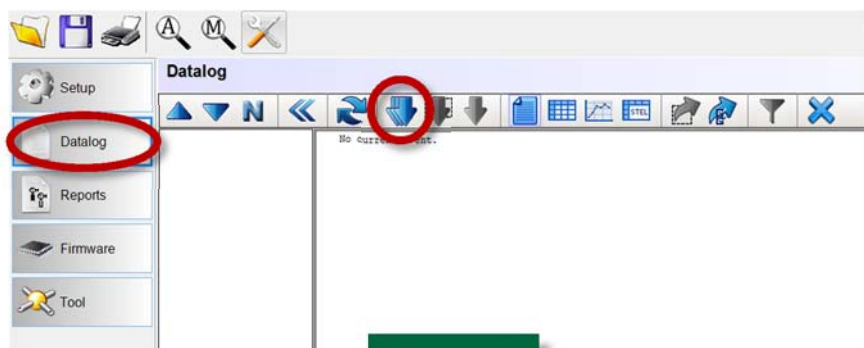
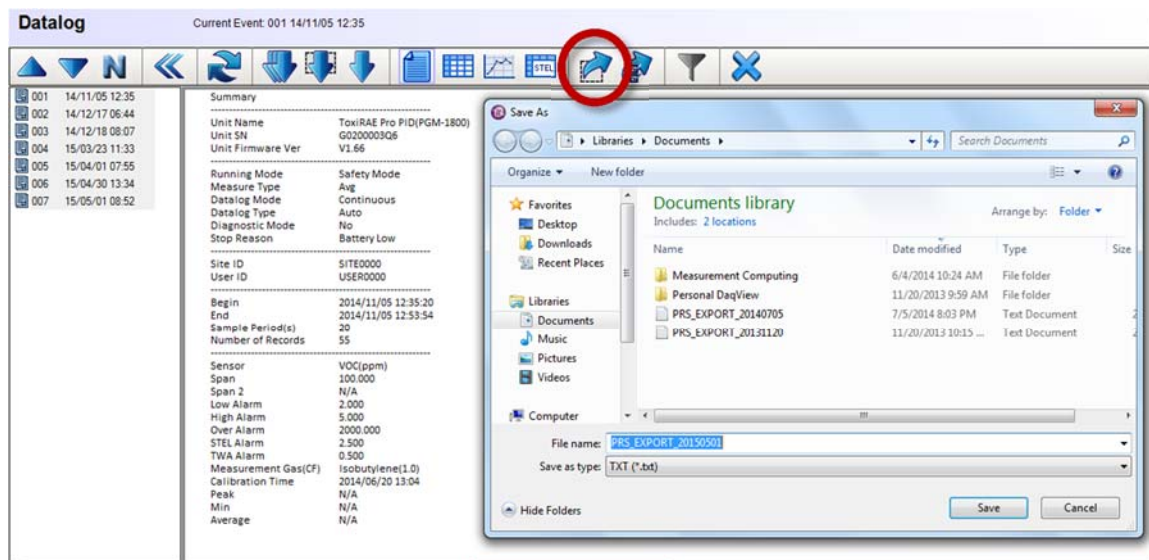

Figure 12
Figure 13
9. Then select '**Datalog**' from the panel on the left and then click the '**Download All**' icon from the row of icons shown in the resulting window (Figure 12). All data files stored on the ToxiRAE Pro PID will be displayed in the column on the left organized by date (Figure 13).
10. Select the file or files to be exported and click the **'Export'** icon (Figure 13) to export the data as a text (*.txt) file. The selected files can then be imported into spreadsheet software for processing, as described in the next section.